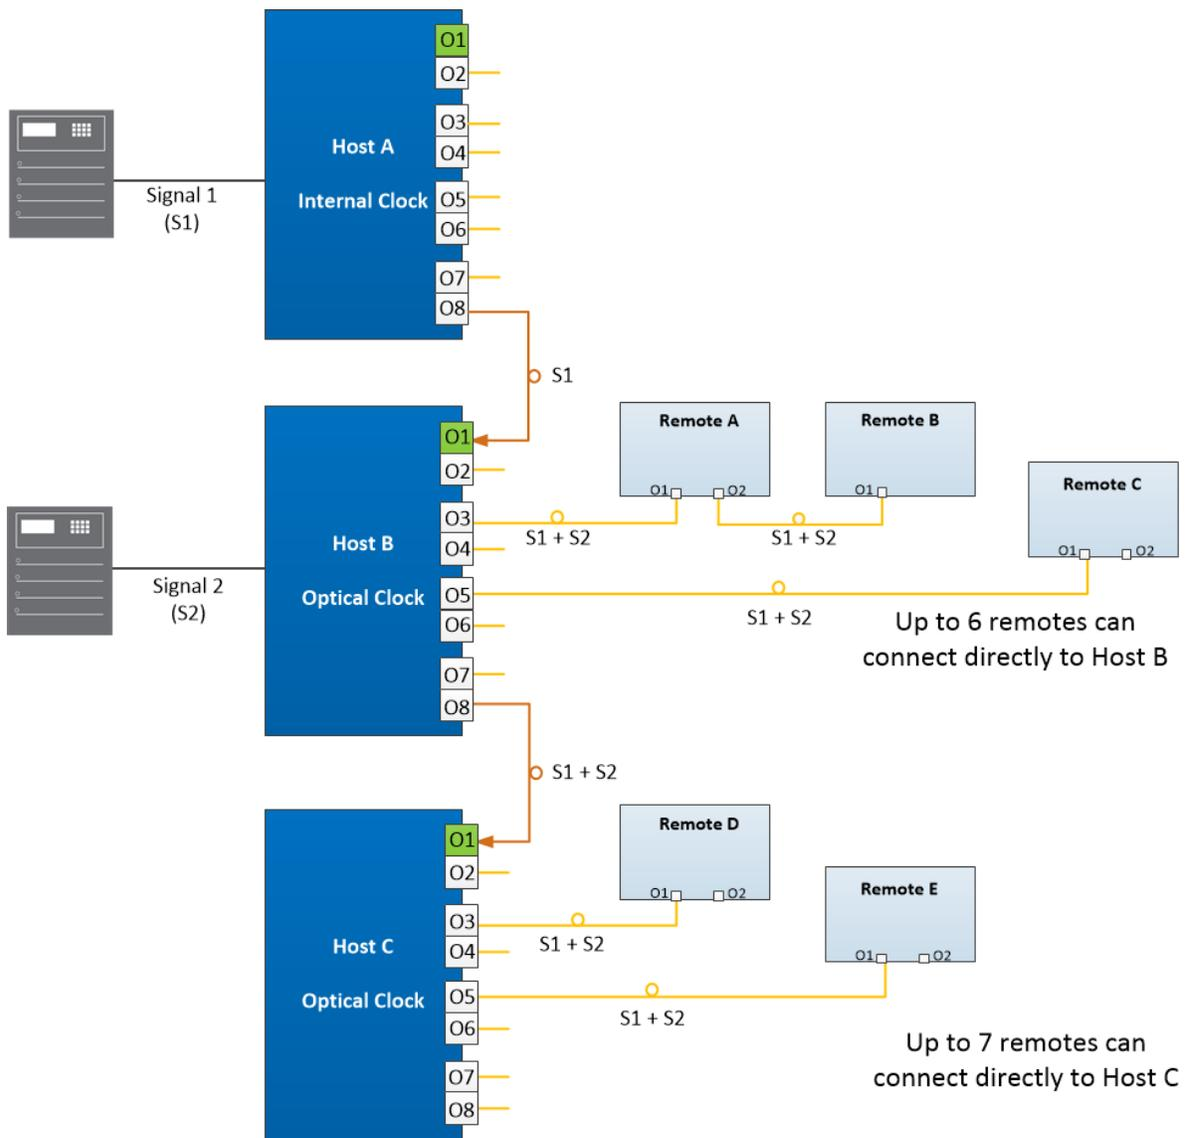

Figure 9-9: Daisy-chained Hosts and Remotes
You can connect host and remote units in daisy-chain configuration to expand the optical port capacity of the system. Signals from multiple bands are combined and sent over single fiber to the remote location. See Figure 9-9.
- Set the reference clock for the first host in the chain to **Internal** (Host A in Figure 9-9)
- Set the reference clock to **Optical** for all downstream hosts (Host B, C and D in Figure 9-9)
For example, in Figure 9-9, only Host B and C deliver both signal S1 and S2 to remotes. With the additional optical port capacity provided by Host C, the system allows for a total of 13 remotes connected directly to hosts carrying both signals.